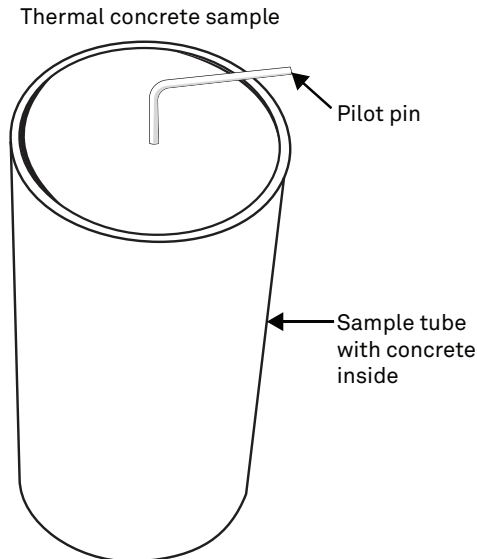

Figure 22 Pilot pin used to form TR-3, or TR-4 access hole
4. Ensure the pilot pin is deep enough that the needle can be entirely inserted once the concrete has cured (Figure 22).